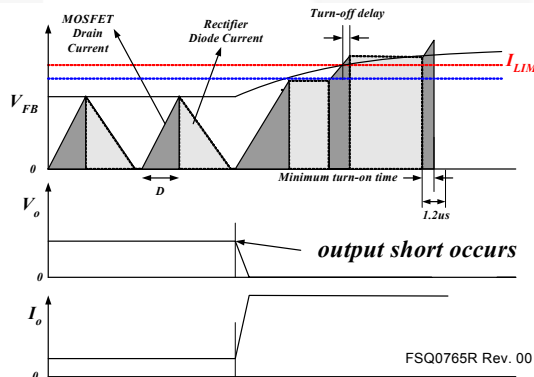

Figure 31. Output Short Waveforms
4.3 Output-Short Protection (OSP): If the output is shorted, steep current with extremely high di/dt can flow through the SenseFET during the LEB time. Such a steep current brings high voltage stress on the drain of SenseFET when turned off. To protect the device from such an abnormal condition, OSP is included in the FSQ-series. It is comprised of detecting V_{FB} and SenseFET turn-on time. When the V_{FB} is higher than 2V and the SenseFET turn-on time is lower than 1.2 μ s, the FPS recognizes this condition as an abnormal error and shuts down PWM switching until V_{CC} reaches V_{start} again. An abnormal condition output short is shown in Figure 31.